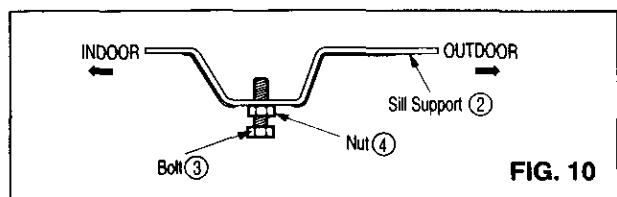

FIG. 10
- 8** Loosely assemble the sill supports using the parts in FIG. 10.